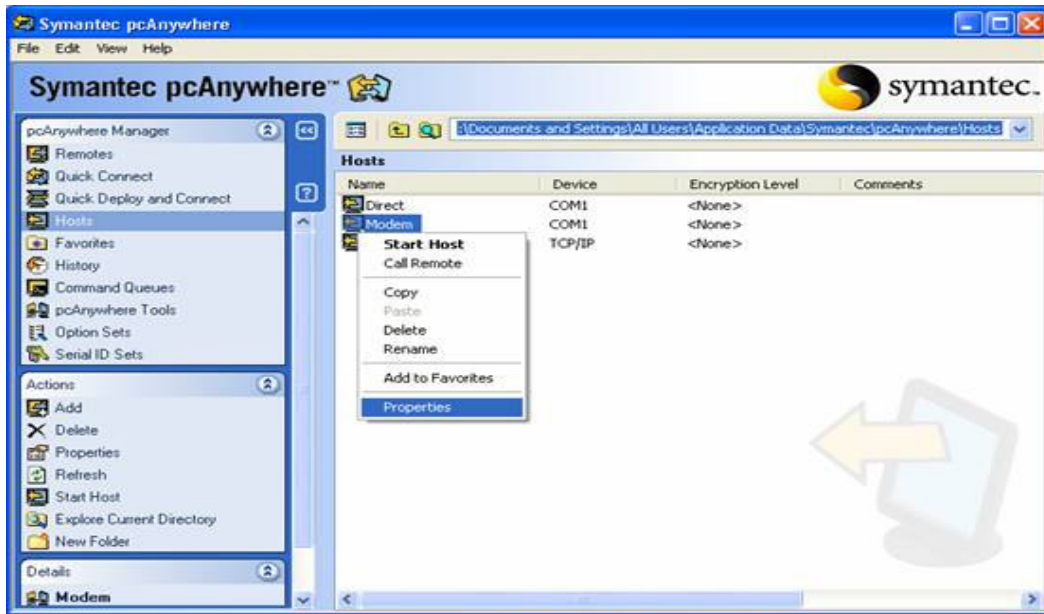

Figure 42: Host System Setup Screen
2. Right click the Modem and choose properties (See figure 42)